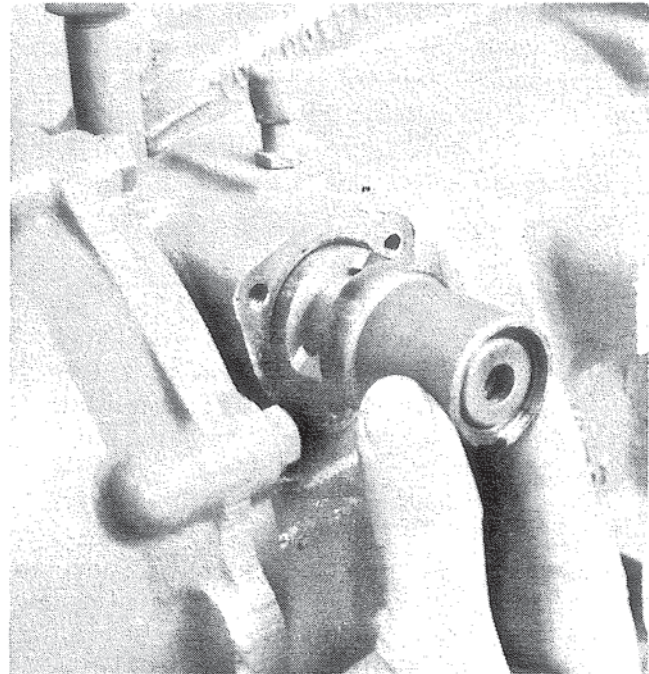

Figure 88. Installing Valve and Spring Assembly.
1. Place entire assembly on clean flat surface. Into the opening provided high on the right-rear side of the transmission case, place the valve and spring assembly, threaded end first. Figure 88. This is a hand assembly and is completed when the valve and spring assembly "bottom" against the shoulder in the case bore.